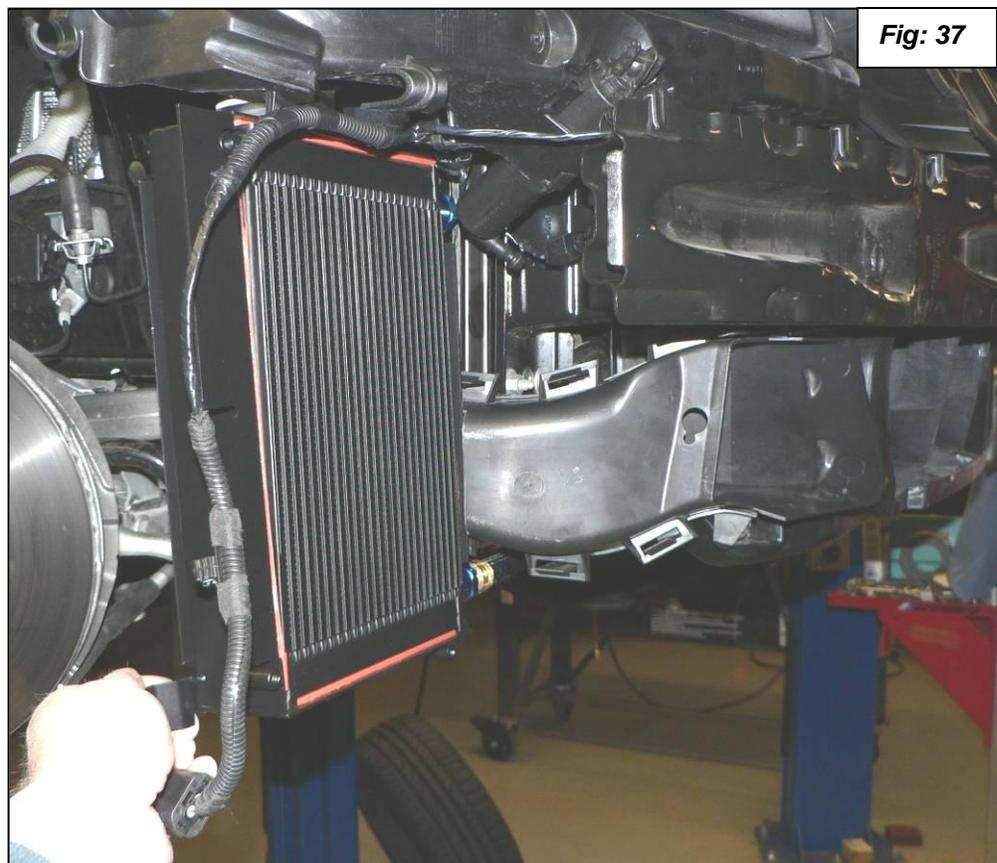

Fig: 37
42. When you pull the cooler into the position it will be with the bumper attached the clearance should be flush. See **figure 37**.